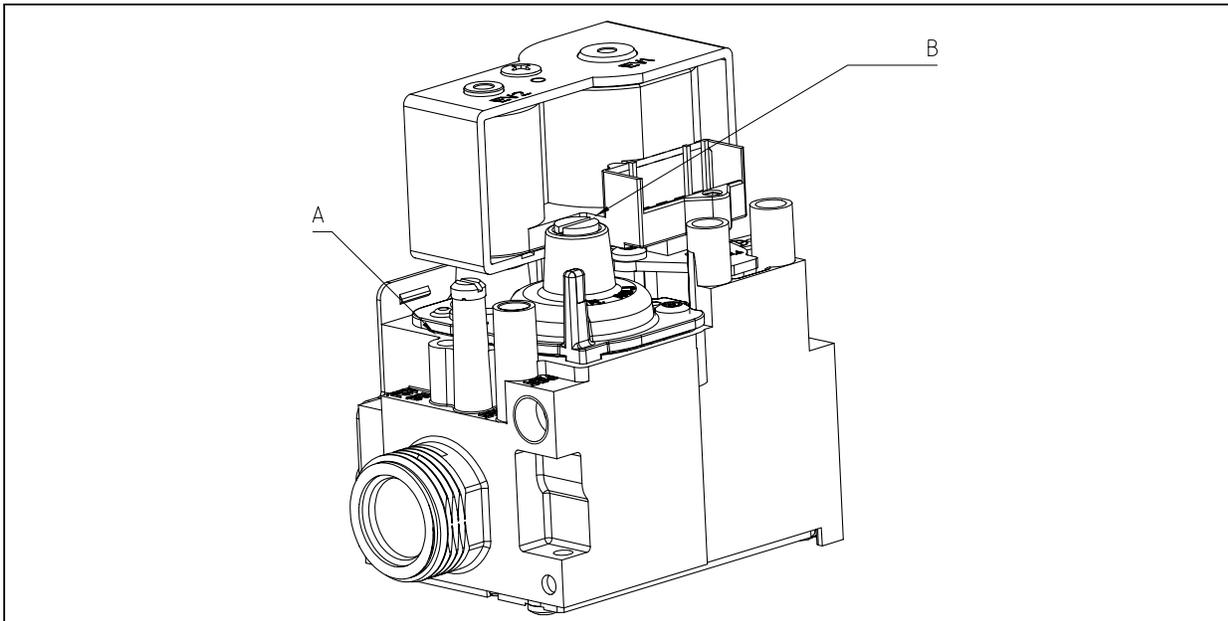

Fig. 23 Setting screws
The CO₂ and O₂ levels can be adjusted by following the procedure below. Any adjustment required can be done via the setting screws on the gas block, see *Fig. 23*.
- After reaching the full load speed, allow the boiler temperature to rise and settle to about 70°C, measure the O₂/CO₂ percentage and compare it with the value in the table. Correct, if necessary, the gas/air ratio with the aid of set screw **A** on the gas block (see *Fig. 23*).
- Correct, if necessary, the gas/air ratio with the aid of set screw **B** on the gas block (see *Fig. 23*).